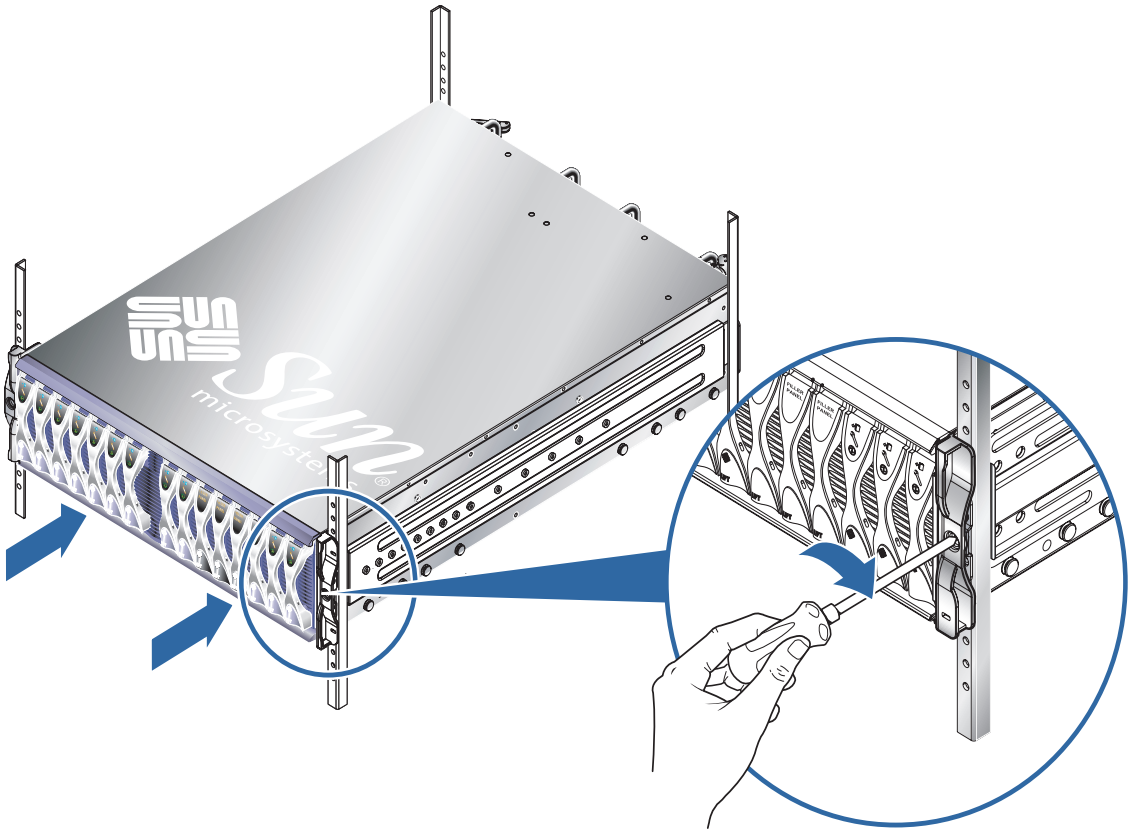

FIGURE 3-8 Tightening the Captive Retaining Screws (19-Inch, Four-Post Rack)
9. Tighten the captive retaining screws located at the front of the system chassis (FIGURE 3-8).